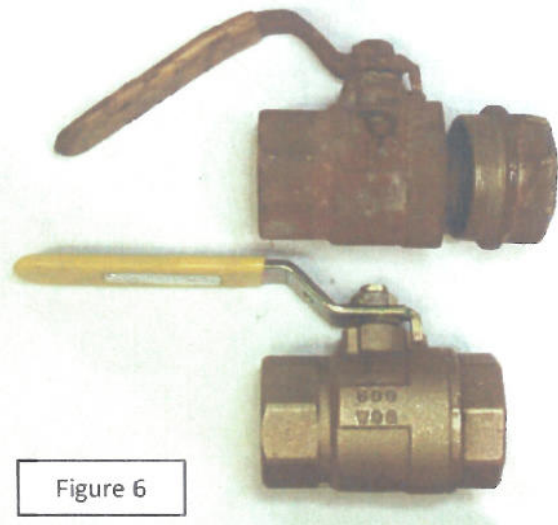

Figure 6
- The valve that was impacted and failed was a 1-1/2 inch bronze ball valve, model BA-100, two-piece, standard port, and was manufactured by Milwaukee Valve Company, Inc. The ball valve had a listed maximum allowable working pressure of 600 psig WOG (Water Oil Gas) and 150 psig SWP (Steam Working Pressure). The ball valve had female NPT (National Pipe Taper) threads on the inlet and outlet of the valve. Figure 6 shows the valve in question and a new valve of the same model from the same manufacturer.